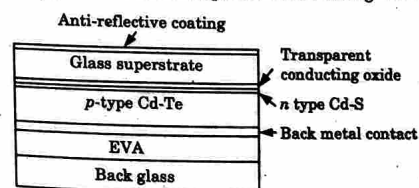

Fig. 3.22.1. Basic structure of Cd-Te cell.
2. Thin film heterogeneous junction with *n*-type Cd-S and *p*-type Cd-Te is fabricated as shown in Fig. 3.22.1.